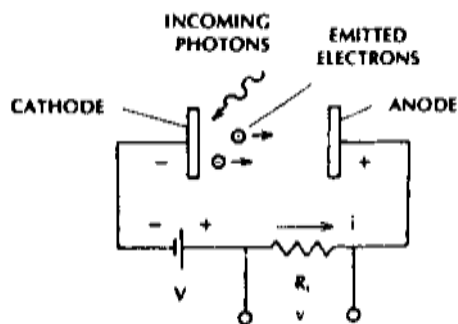

Figure 7-2 Vacuum photodiode.
- A vacuum photodiode is sketched in Fig. 7-2.